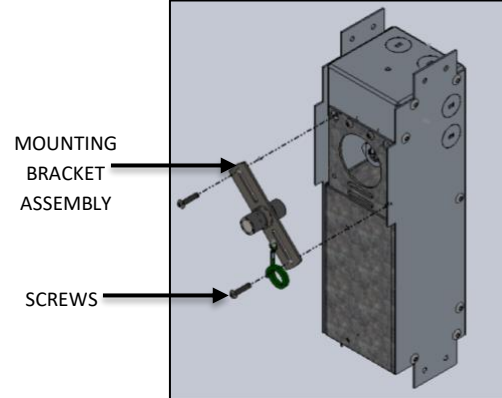

FIG. 9 - MOUNTING BRACKET DISASSEMBLY
2. Remove the SCREWS securing MOUNTING BRACKET ASSEMBLY, and slide MOUNTING BRACKET ASSEMBLY out of J-BOX as shown in FIG. 9.